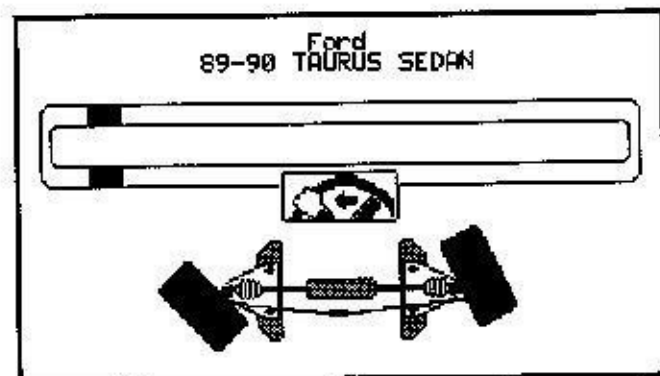

Figure 2-20
2. The meter in Figure 2-20 represents the position of the wheels. A picture at the bottom of the meter will appear briefly to indicate which direction the wheels should be turned.